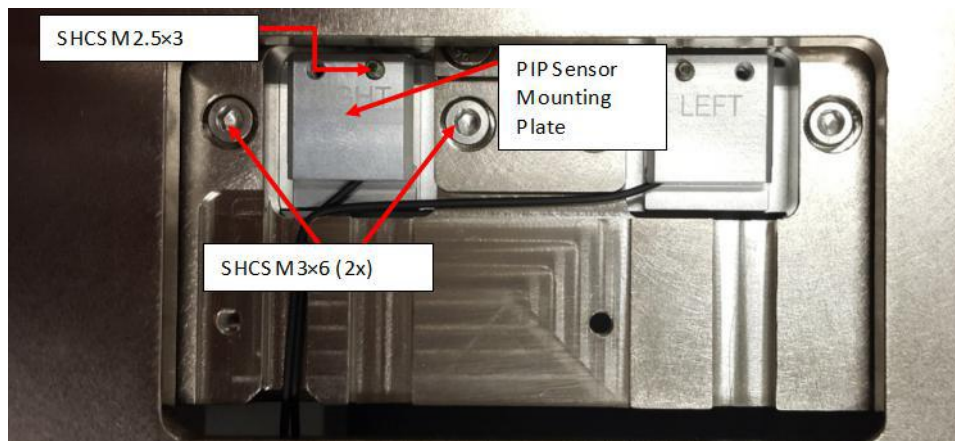
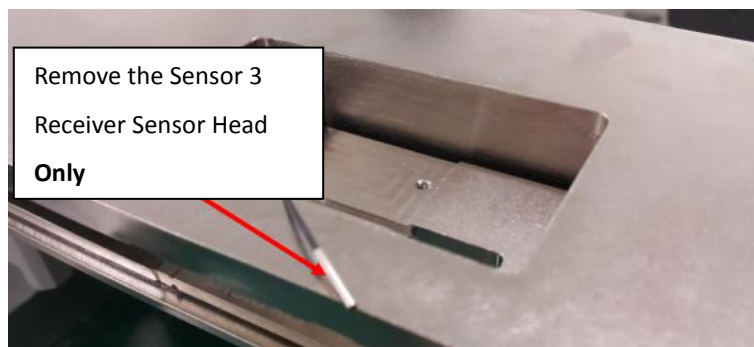

Figure 15 Sensor 3 Receiver
Figure 16 Sensor 3 Receiver
2. Remove SHCS M3×6 (2x) from sensor 3 Receiver as shown in Figure 15. Loosen SHCS M2.5×3 as shown in Figure 15. Remove Optical Sensor 3 Receiver Head from pip sensor mounting plate as shown in Figure 16